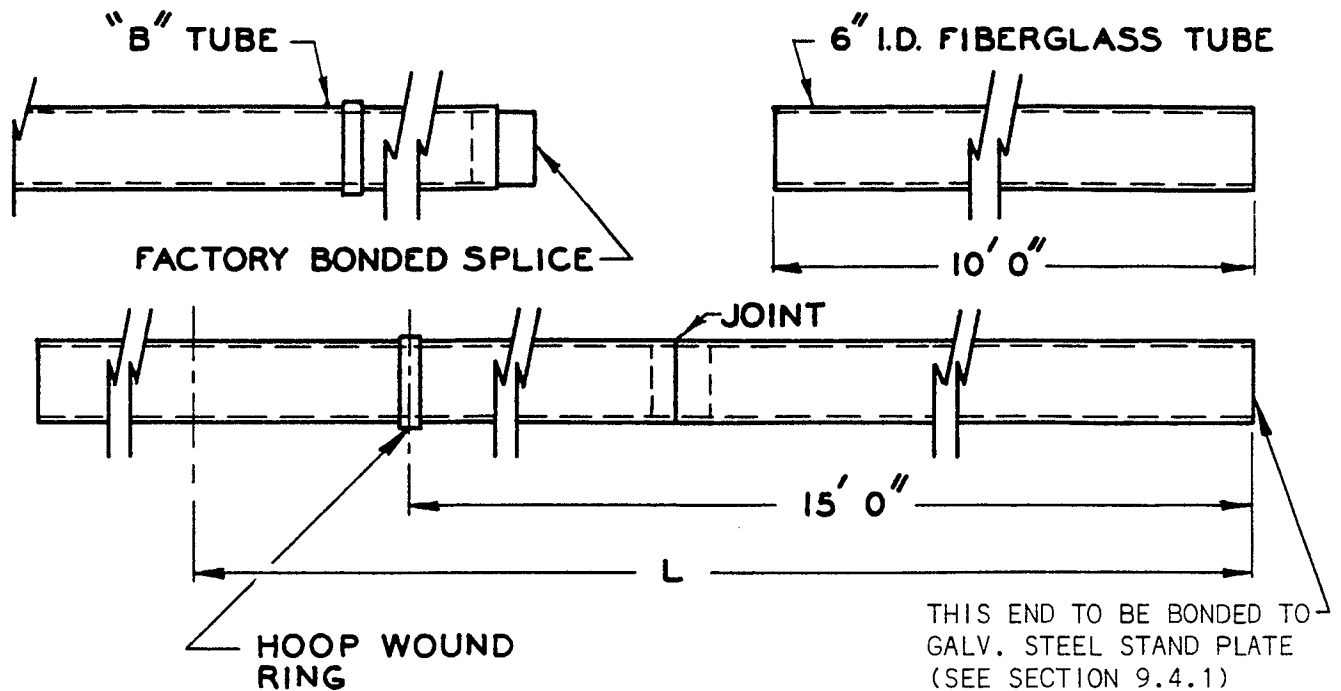

FIG. 1-6
V is the distance from the center line of the light to the top of the 6" I.D. fiberglass tube. This distance is determined by the field contractor using the hardware that is to be mounted at the top of the LIR structure (See Figure 1-6)
1.5.2.1 When the "L" value computed by the formula given in Section 1.5.2 is greater than 19'-10", then a section of 6" I.D. fiberglass tube 10'-0" long is cut. This 10'-0" long section is then bonded to the factory bonded splice end of a "B" tube. This bonded assembly is then cut to length "L", taking care to cut the end opposite the bonded 6" I.D. fiberglass tube. (See Fig. 1-6)